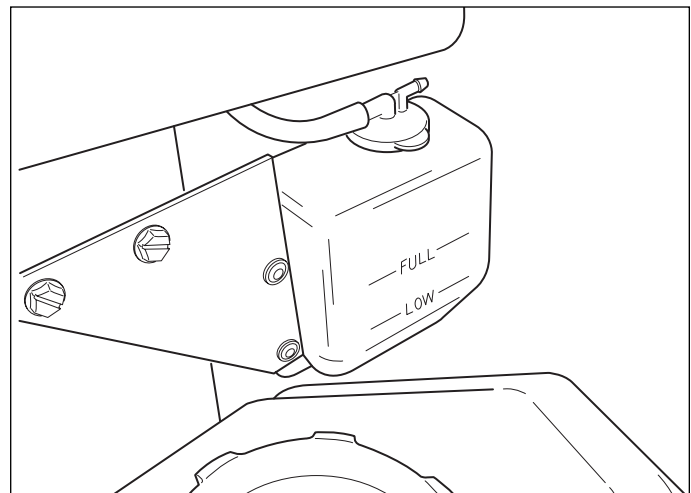

Figure 17. Radiator Expansion Tank
3. Check the coolant level in the radiator expansion tank (Figure 17). If coolant level is low, remove the cap add coolant until level is at the "FULL" line. Proper coolant mix is a 50/50 mixture of ethylene glycol and distilled water. See engine owners manual for engine coolant specifications.